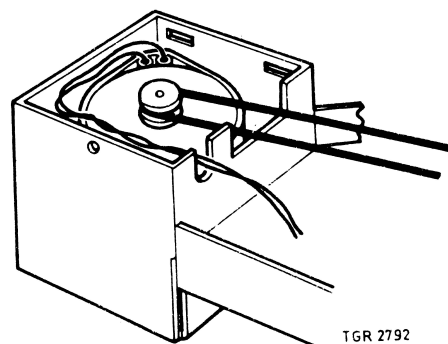

Fig. 8
- . To prevent interferences, the anti-interference beads should be slid as far as possible along the connecting wires of the motor and be placed in the correct corner of the motor housing (see Fig. 8).